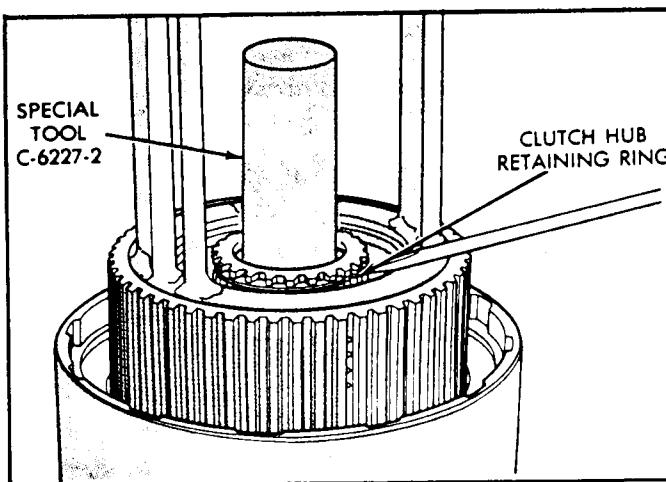

Figure 21
31. Install the clutch hub retaining ring, as shown in Figure 21, and "**Ensure**" that snap ring is fully seated in the snap ring groove.